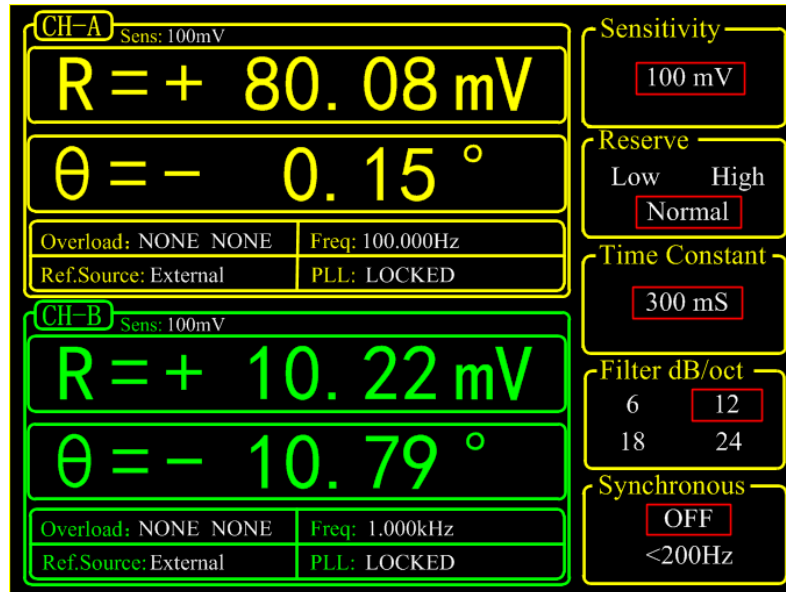

Fig.86 The Monitoring Bar of Main Interface
6. The data bar of main interface displays the value of <R>, <X>, <Y> and < θ >. Press [DISPLAY] in front panel to enter the submenu, as shown in Fig 86 and 87. In default settings, the top area displays <R> and the bottom area displays < θ >.